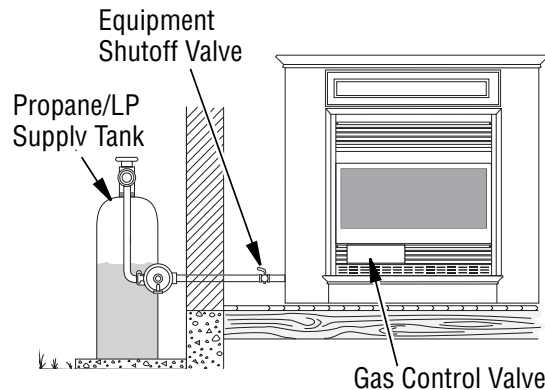

Figure 26 - Checking Gas Joints (Propane/LP Only)
3. Check all joints from gas meter to equipment shutoff valve for natural gas or propane/LP supply to equipment shutoff valve for propane/LP (see *Figures 26 or 27*). Apply noncorrosive leak detection fluid to all joints. Bubbles forming show a leak.
4. Check all joints from equipment shutoff valve to gas control valve (see *Figures 26 or 27, Page 20*). Apply noncorrosive leak detection fluid to all joints. Bubbles forming show a leak.